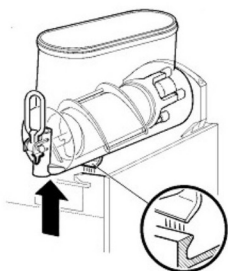
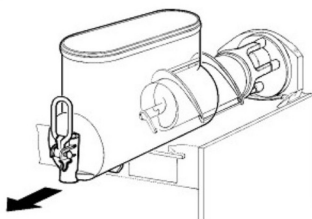

figure 1
figure 2
3. Remove the bowl by lifting its faucet side up and off the fastening hooks(fig.1)and side it out(fig.2)